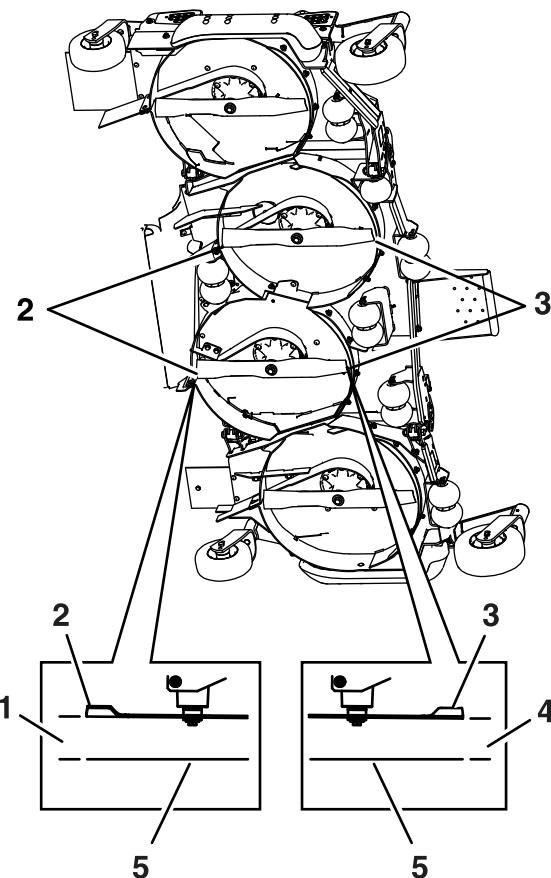

Figure 81
10. Measure from the level surface to the front tip of the left and right center deck blades (Figure 81). The measurement should read 102 mm (4 inches).